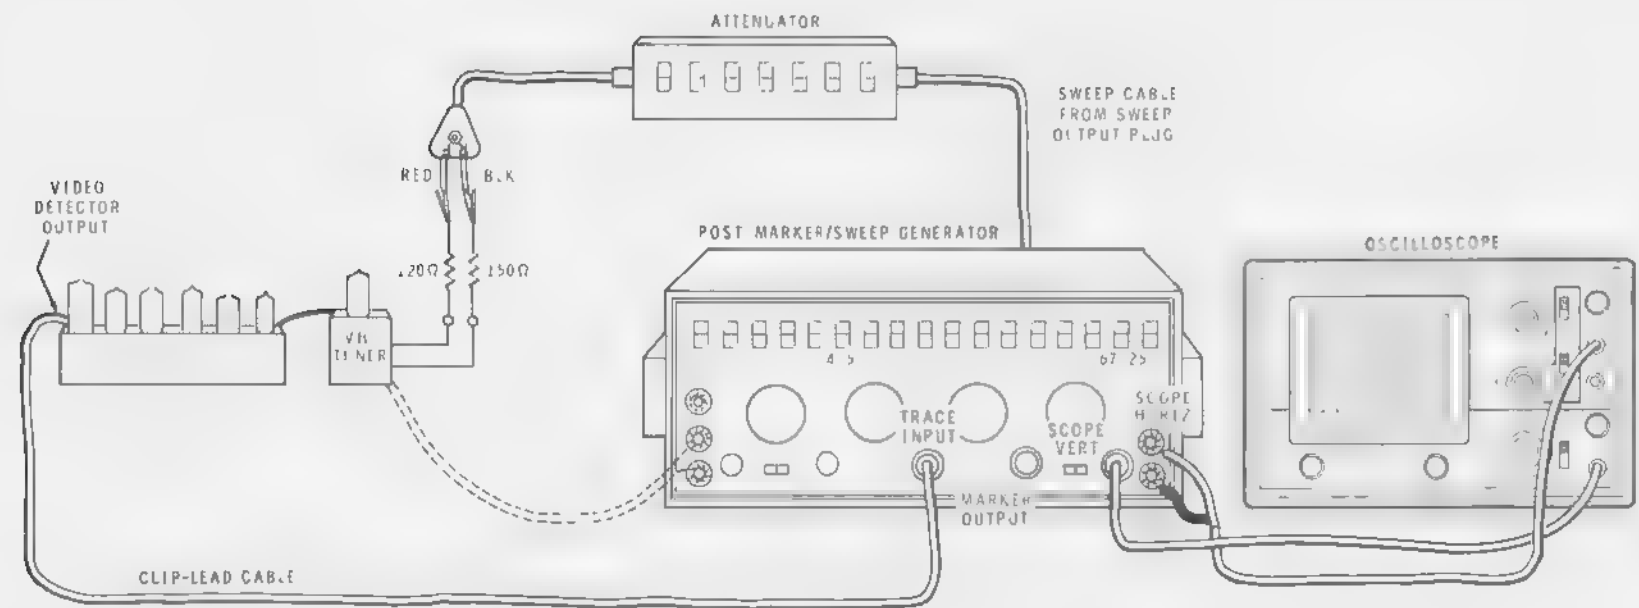

FIGURE 15
- () Connect the equipment as shown in Figure 15 (fold-out from this page).